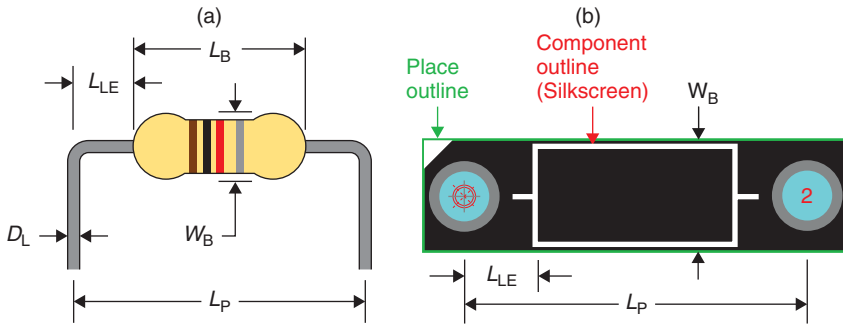

Figure 5-13 Generic footprint design parameters for axial-leaded components. (a) Radial-leaded resistor. (b) Layout radial footprint
Footprint designs for components with axial leads are highly variable compared to the radial-leaded devices, but the IPC standards (IPC-CM-770, Section 11.1.8, p. 67) and other sources in literature provide general guidance on footprint design. Figure 5-13 illustrates the design parameters for an axial-leaded component (in this case carbon resistor). The location of the padstacks depends on the length of the body and the location of the lead bends (lead form). The minimum required distance between the padstacks is calculated using Eq. (3),